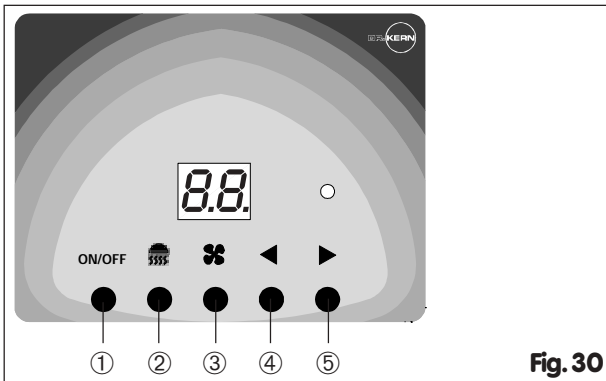

Fig. 30
For tanning units with facial lamps the digital timer (Fig.30) has to be switched on with key ② .